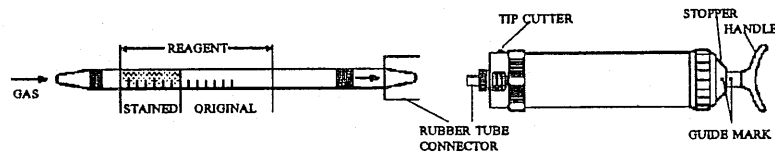

Fig.1
- ② Insert the detector tube into aspirating pump securely as shown in Fig.1. (Arrow mark shall point to the pump.)
- ③ Align the guide marks on the shaft and stopper of the aspirating pump.
- ④ Pull pump handle to full stroke until it locks and wait for 20 seconds or until confirmation that sampling is completed (See descriptions of the flow indicator in the pump instructions).
- ⑤ Repeat the above sampling procedure four more times.
- ⑥ On completion of sampling, read the scale at the top of the stained layer.